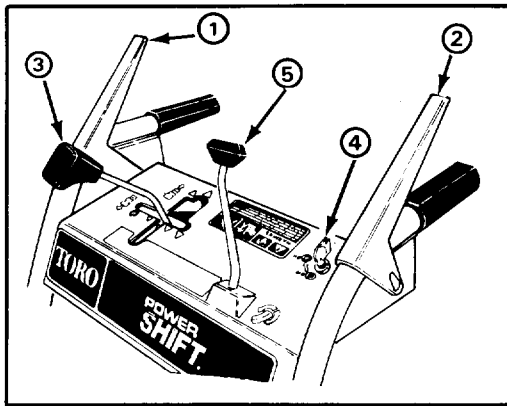

Figure 9.
**Auger/Impeller Control** (Fig. 9) — Control has two positions: ENGAGE and DISENGAGE. To engage auger and impeller, compress lever against right handle grip. To disengage, release lever.
**Traction Drive Control** (Fig. 9) — To engage traction or activate power shift system, lever must be compressed against left handle grip. To stop traction, release lever.
**Speed Shift Control** (Fig. 9) — The control has four speeds forward and two reverse and also controls power shifting of wheels. To select speeds, move shift control to desired position.
**Auger Lock-Up** (Fig. 9) — When auger/impeller control and traction drive control are both compressed, the traction control locks the auger/impeller control down. Releasing the traction control releases the auger/impeller.
**Discharge Chute Control** (Fig. 9) — Rotate discharge chute control clockwise to move discharge chute to the right and counterclockwise to move chute to the left.
**Ignition Switch** (Fig. 9) — Switch has two positions: ON and OFF. Rotate key to ON position before starting engine. To stop engine, rotate key to OFF.
1. Move speed shift control to N (neutral) and throttle to FAST (Fig. 9).
4. Rotate ignition key to ON (Fig. 9).
1. Release traction and auger/impeller drive controls (Fig. 9).